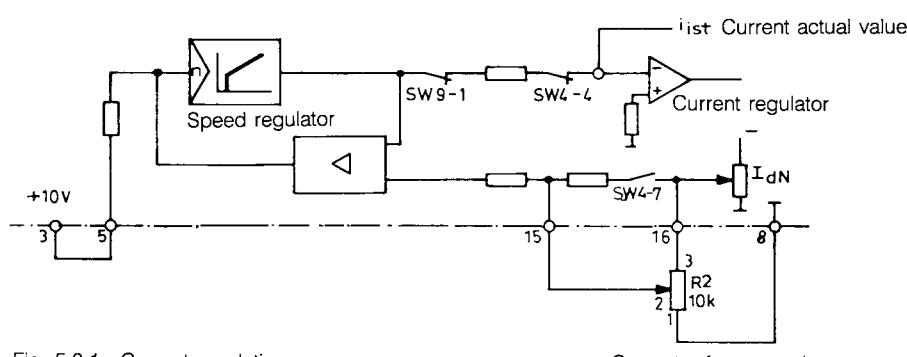

Fig. 5.8.1 Current regulation
- Connect potentiometer R2 for the current reference value in accordance with Fig. 5.8.1